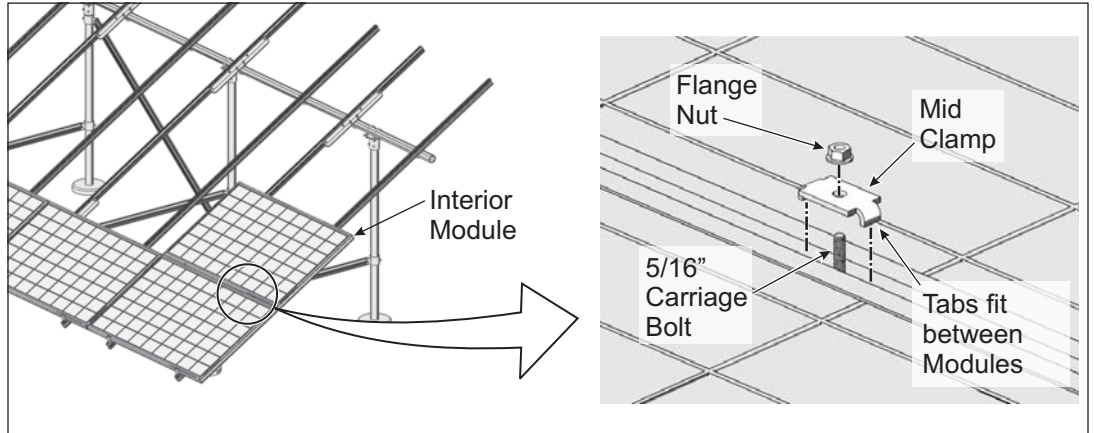

Figure 7-5: Inserting Mid Clamps
- D. Install one Mid Clamp on each of the 5/16" bolts that are between each of the interior Modules. Be sure that the tabs of the Mid Clamp rests between the two Modules. Secure each of the Mid Clamps with a 5/16" flange nut. **Torque Mid Clamps to 14-16 ft.-lbs.** (See Figure 7-5)